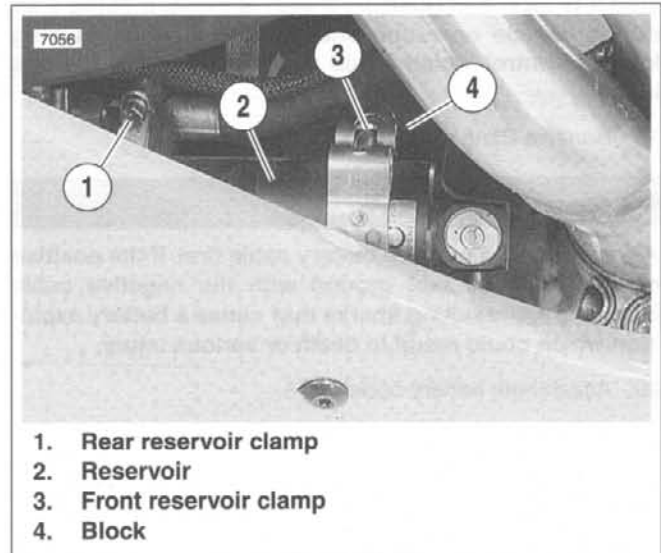

Figure 2-121. Reservoir Clamps
5. See Figure 2-121. Remove reservoir.
- a. Remove locknut and washer on the front reservoir clamp (3).
- b. Loosen rear reservoir clamp (1). Slide reservoir (2) and mount block (4) out of clamps.
3. Loosely install front allen bolt (3) (metric) and locknut.
4. See Figure 2-121. Loosely install rear clamp (1) and front clamp (3) around reservoir (2) and mounting block (4).